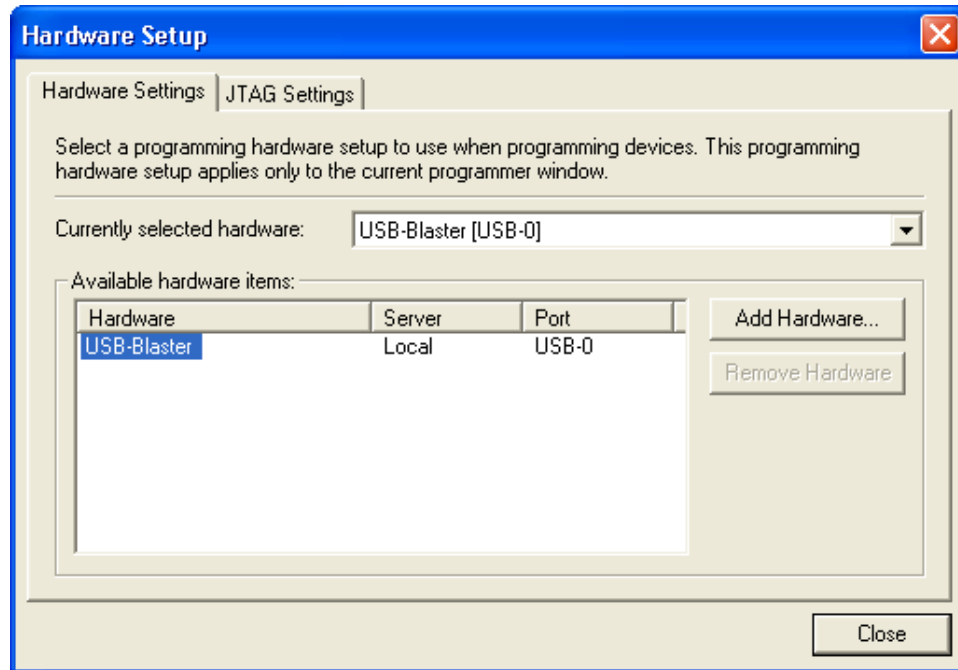

Figure 13. Setting up hardware.
7. For SignalTap II to work, we need to properly set up the hardware. First, make sure the DE2 board is plugged in and turned on. In the Hardware section of the SignalTap II window, click **Setup**, bringing up the window in Figure 13. Double click USB-Blaster in the Available Hardware Items menu, then click **Close**.